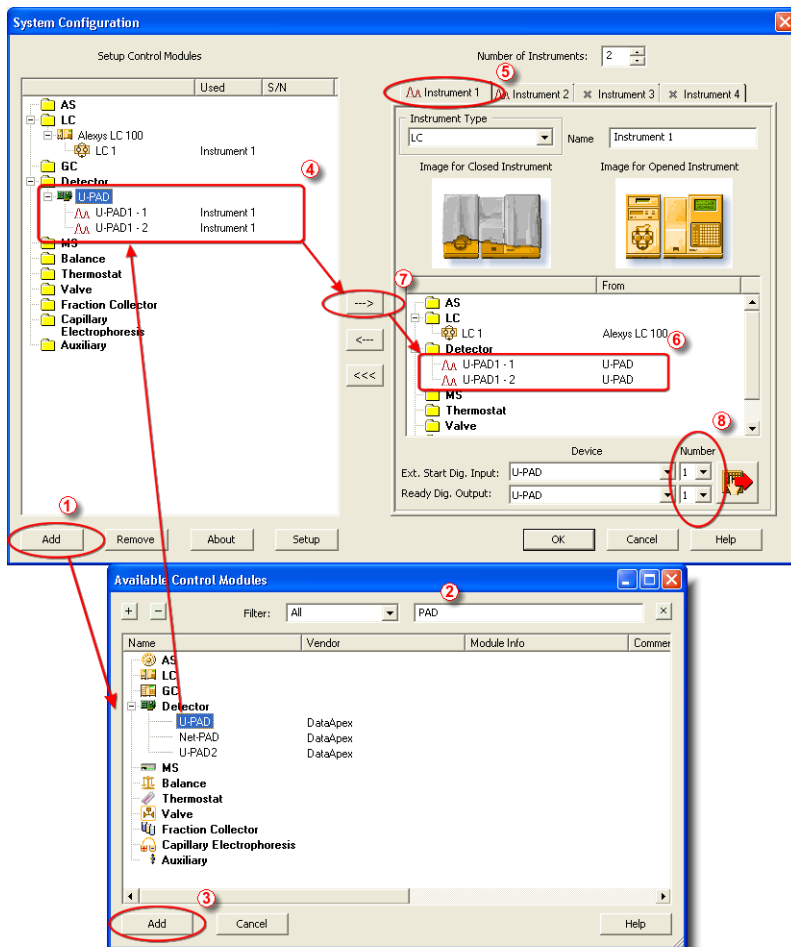

Fig. 8: System Configuration
- Press the **Add** button (1) (see **Fig. 8** on pg. 9.) to invoke the *Available Control Modules* dialog.
- You can specify the searching filter ② to simplify the finding of the driver.
- Select the **U-PAD** and press the *Add* ③ button.
Note: The input used for an external start from a chromatograph can be set in the *System Configuration* dialog, see **Fig. 8** on pg. **9**.